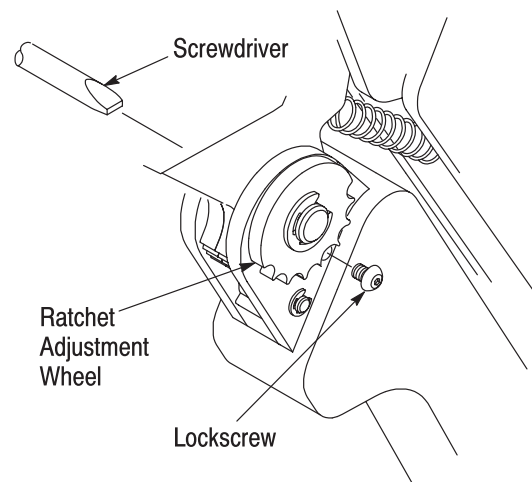

Figure 5
5. ADJUSTMENTS**5.1. Ratchet Adjustment** (Figure 5)